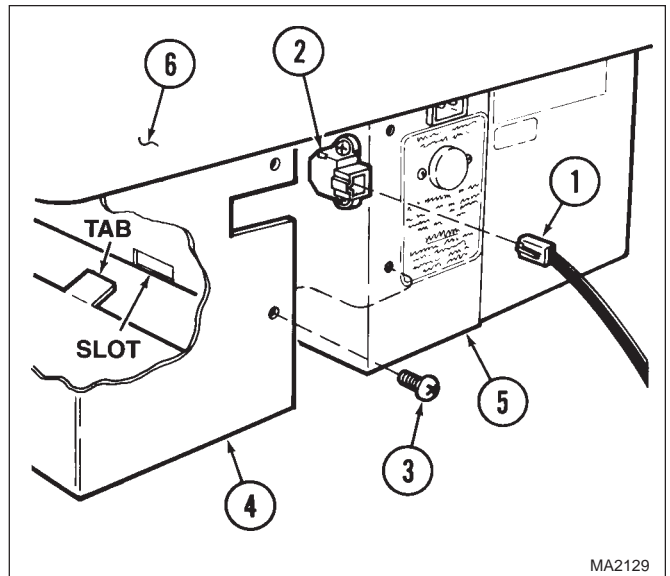

Figure 4-3. Electrical Cover Removal / Installation
- (1) Disconnect coil cord (1, Figure 4-3) from connector (2).
- (2) Disconnect electrical power from the surgery table.
- (3) Remove four screws (3) and electrical cover (4) from inner shroud (5) by pulling outward on the bottom of the electrical cover and then downward.